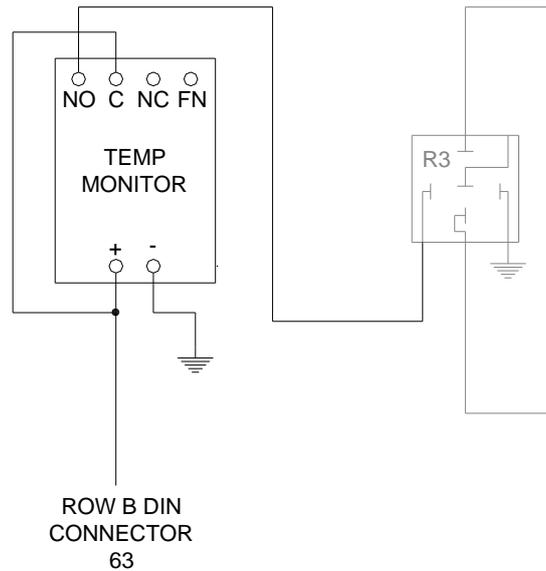

Figure 1: Wiring diagram for temperature monitor installation
- Step 6:** Connect this wire to the positive power supply terminal of the temperature monitor, as shown in Figure 1. If the wire is too long, cut to an appropriate length. Using a separate piece of red wire, connect the positive power supply terminal to the common terminal (labelled 'C') of the temperature monitor.
- Step 9:** Check the connections you have made comply with those given in Figure 1. If they are correct, re-connect the truck batteries, turn the ignition keys and PTO switch on.